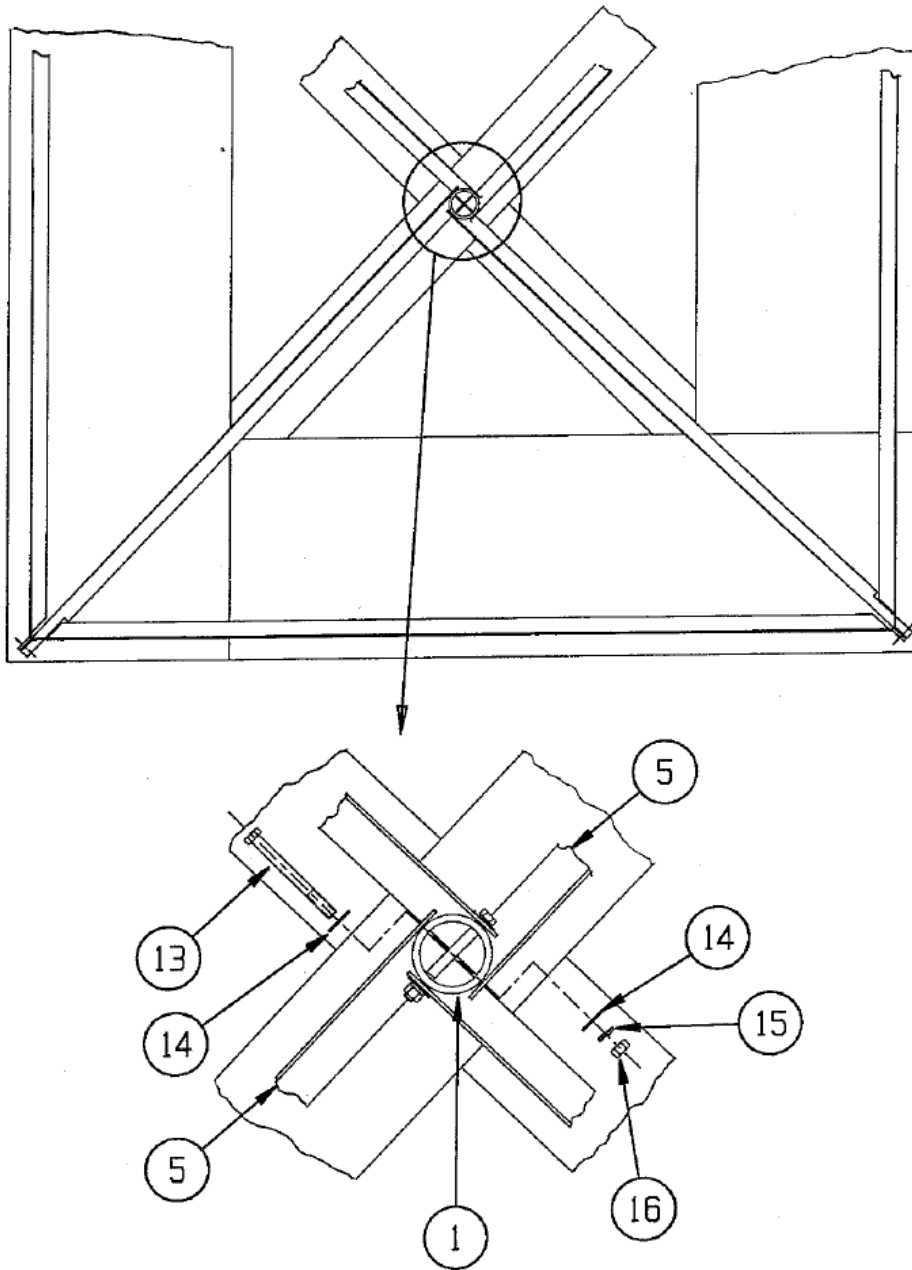

Figure 4
- STEP 5:** Place the mast pipe (item 1) at the center of the diagonal braces as shown in Figure 4 and secure with (2) 1/2" bolts, (4) flatwasher, (2) lockwasher, and (2) hex nuts (items 13, 14, 15, & 16). Snug only. **(Note: Insure small rubber pads are centered under mast)**